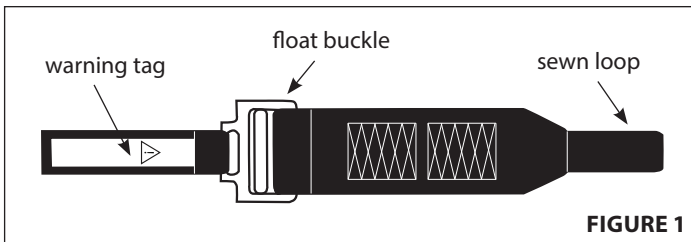

FIGURE 1
1. Hold float buckle so warning tag faces upward. **SEE FIGURE 1.**